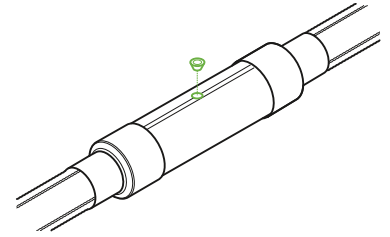

Fig. B12.2.14
14. Insert the sleeve venting plug into the hole (Fig. B12.2.14). Wait for 15 to 20 minutes. After a small amount of foam has appeared in the venting plug, wait for an additional 30 minutes.